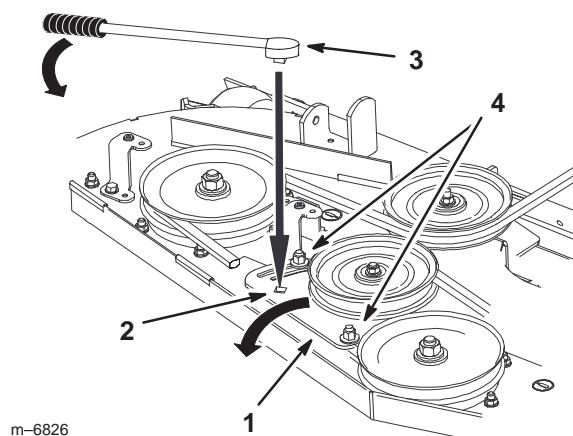

Figure 73
4. Loosen the nut securing the idler plate and move the idler plate to relieve the belt tension on the idler pulley (Fig. 73).
5. If adjustment is required, loosen the mower idler plate and adjust it (Fig. 73).
6. Insert a ratchet or breaker bar into the square hole in the mower idler plate to adjust the tension (Fig. 73).
7. To increase belt tension, rotate the mower idler plate until resistance is felt and rotation stops. Do not go past when it stops (Fig. 73).
8. Tighten the idler plate bolts (Fig. 73).
10. Adjust the belt tension and the idler plate, if necessary, and tighten all hardware securely (Fig. 73).